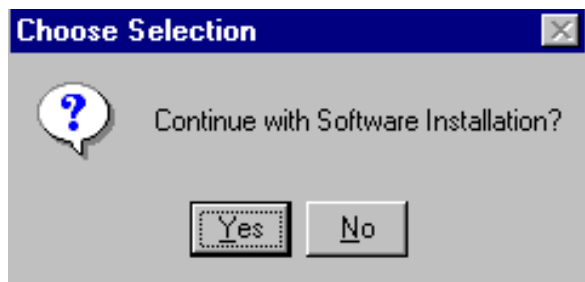

FIGURE 31. Continue Installation Dialog
8.64 Click Yes to continue the software installation. See Figure 31.